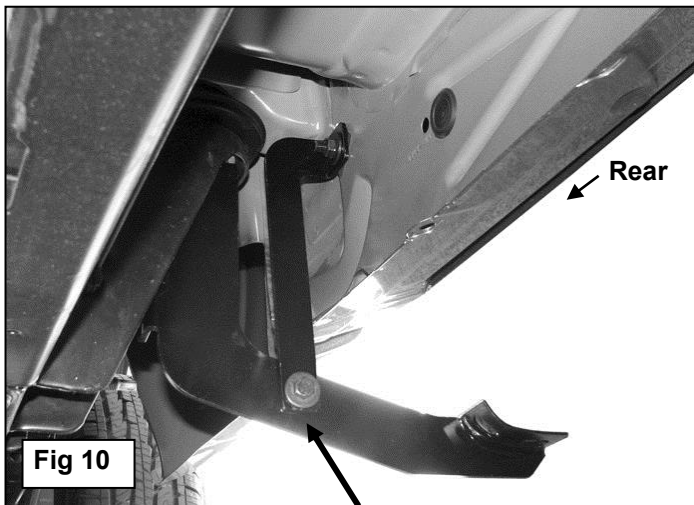

Fig 10
- Attach the driver side rear Support Bracket to the Bolt Plate with (1) 10mm Lock Washer, (1) 10mm Flat Washer and (1) 10mm Hex Nut, (Figures 9). Bolt the lower end of the Support Bracket to the front of the Rear Bracket with (1) 10mm x 30mm Hex Bolt, (2) 10mm Flat Washers, (1) 10mm Lock Washer and (1) 10mm Hex Nut, (Figure 10). Do not tighten hardware at this time.